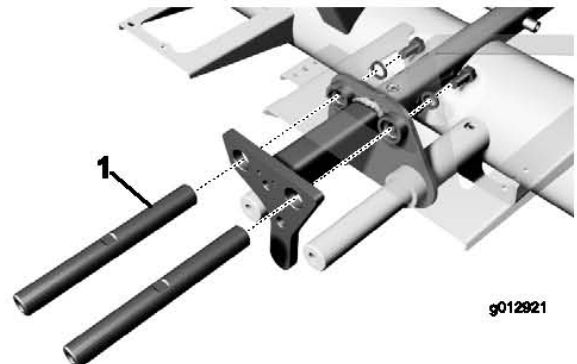

Figure 9
17. Insert the lift cylinder pivot shafts through the stub shaft plate and secure them to the lift plate with the bolts and washers previously removed (Figure 9).